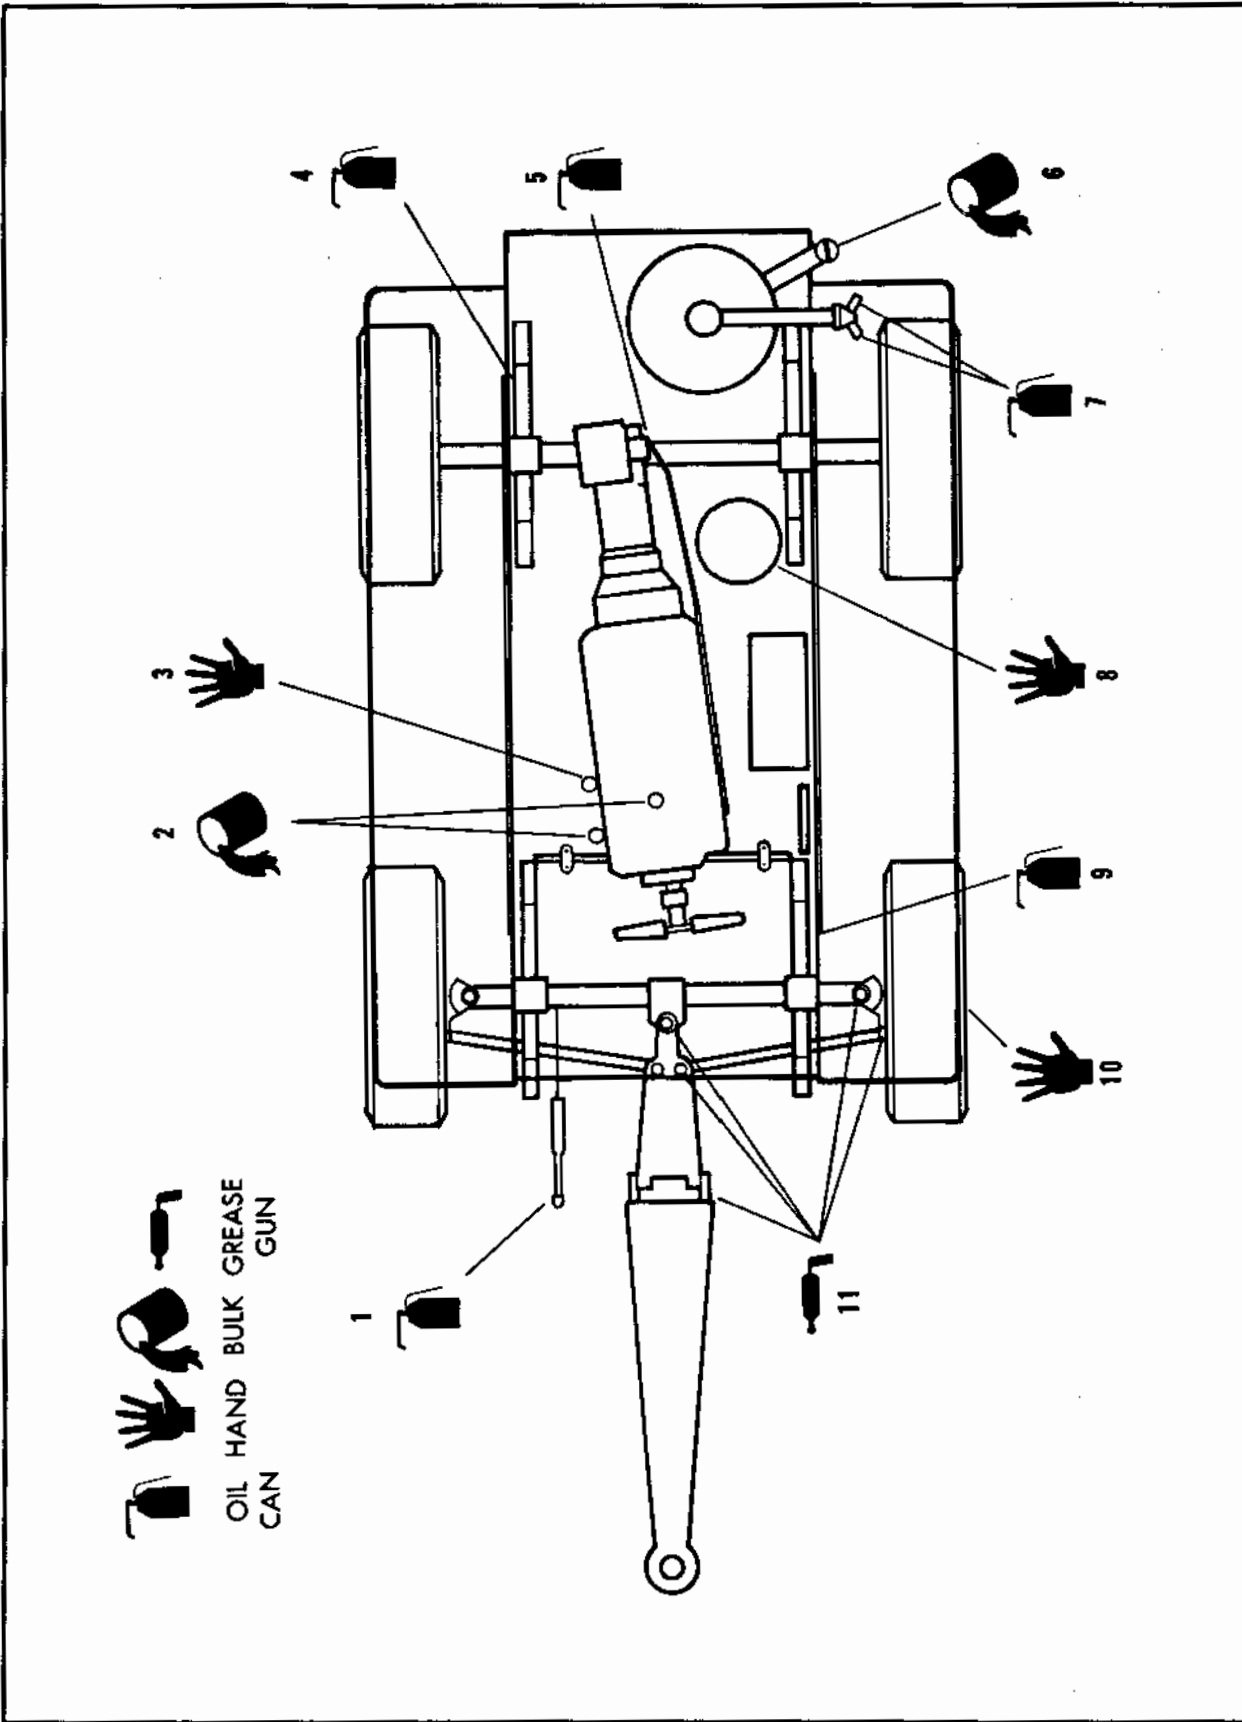

Figure 2-1. Lubrication Chart (Sheet 1 of 2)
Refer to figure 2-1, "Lubrication Chart", for the manufacturer's recommended lubricants and servicing intervals.
(1) Check oil level in the receiver-oil separator by removing the filler plug and visually check level. If oil is low, fill to overflow with oil specified in figure 2-1. Recheck oil level after operating fifteen minutes (with unit stopped).